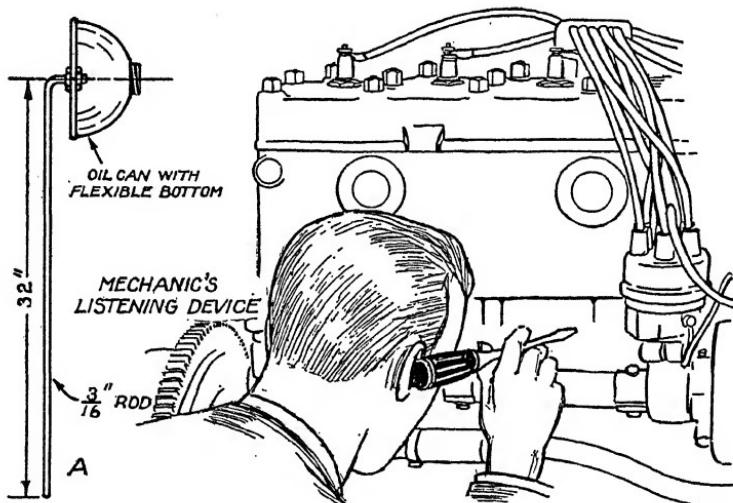

Fig. 5. Listening for Engine Knocks
**Never try to locate engine knocks with the motor cold.** Hold one end of the screwdriver or rod to the ear, as indicated in Fig. 5,
placing the other end at different positions on the motor. In this way, the particular spot at which the noise is greatest can be located. (Note: Some mechanics make up a "listener" along the lines indicated at *A* in Fig. 5, which is merely a welding rod soldered to the bottom of a common oil can.) If the noise seems to be at the top of the engine, it is likely within the cylinder and by shorting out the spark plug for that cylinder you can tell whether or not you have definitely located it. Troubles within the cylinder may be of three kinds—worn piston pins, worn or loose pistons, and faulty piston